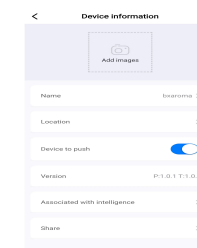

Figure 20
- ③ On the equipment information page, click [Remove equipment] to complete the operation of removing equipment (Figure 20).